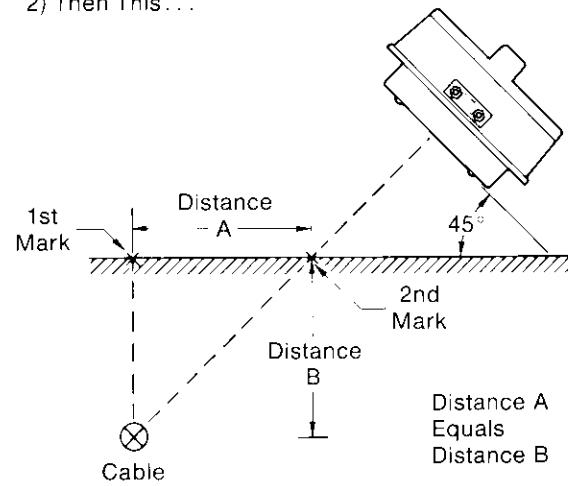

Fig. 11 — Determining Cable Depth — Triangulation
- (1) With the receiver in NULL mode, mark a point on the cable path (Fig. 11[1]).
- (2) Hold the receiver so the handle is parallel to the cable path and tilt it so the bottom is at the 45 degree angle relative to the ground (Fig. 11[2]).